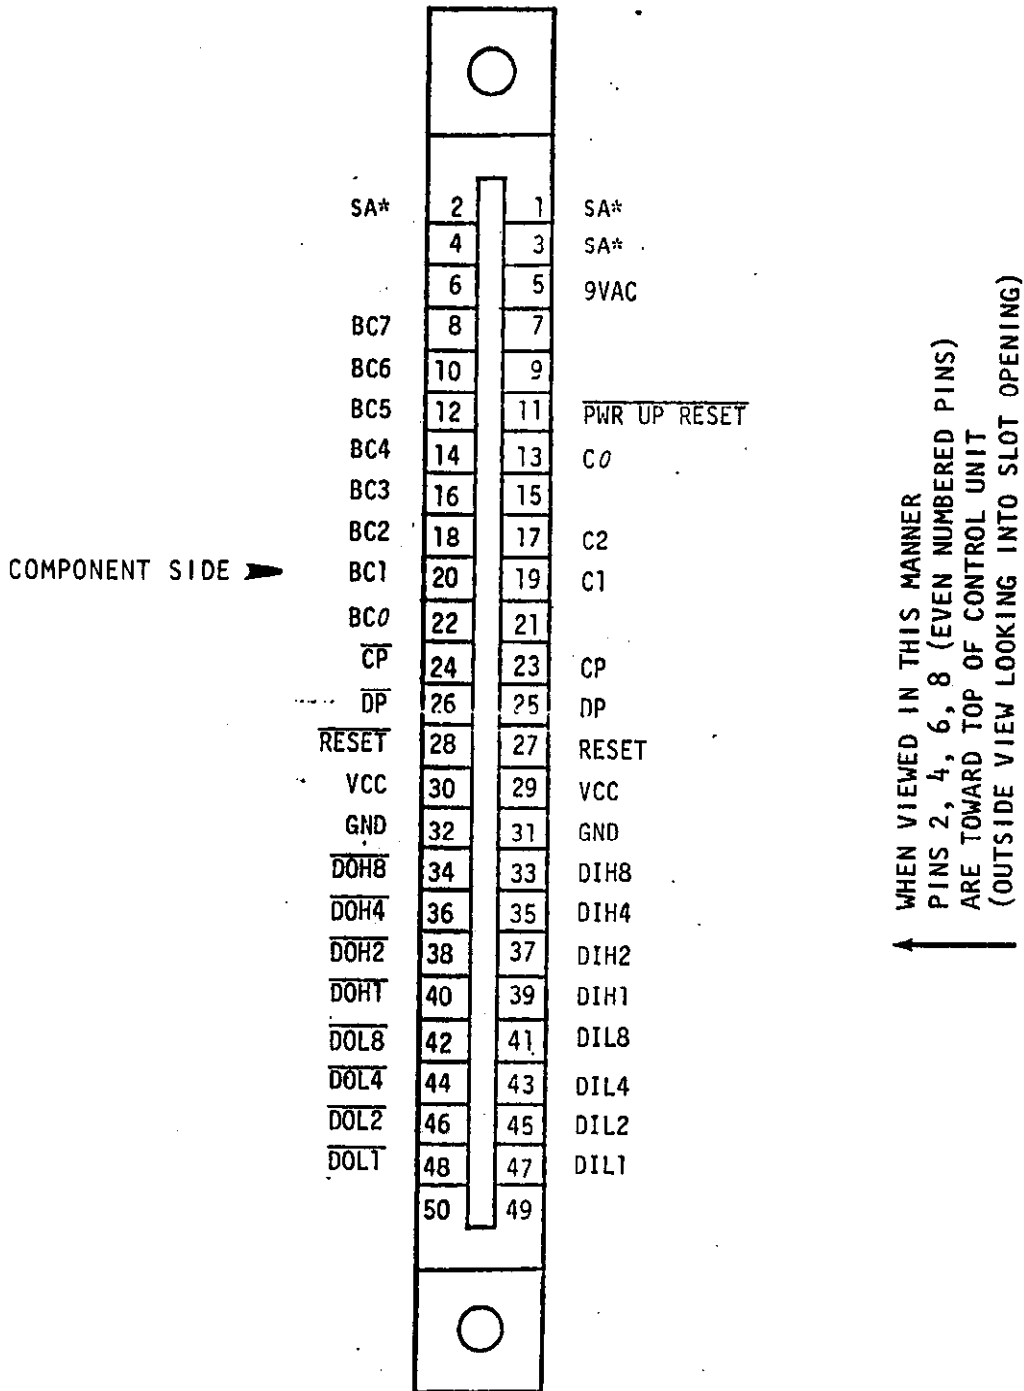

FIGURE 6. Card-edge Connector (J101, J102, or J103).
3-2. INTERFACE BUS CONFIGURATION. The Control Unit has three 50-pin card-edge connectors J101, J102, and J103 corresponding to Interface Numbers 3, 2, and 1. Except for Slot Address lines, all signals are wired in parallel on the three connectors. See Figure 6.
Slot Address (SA)	All three Slot address lines are wired to connectors J101, J102, and J103. Refer to Figure 6 for wiring.